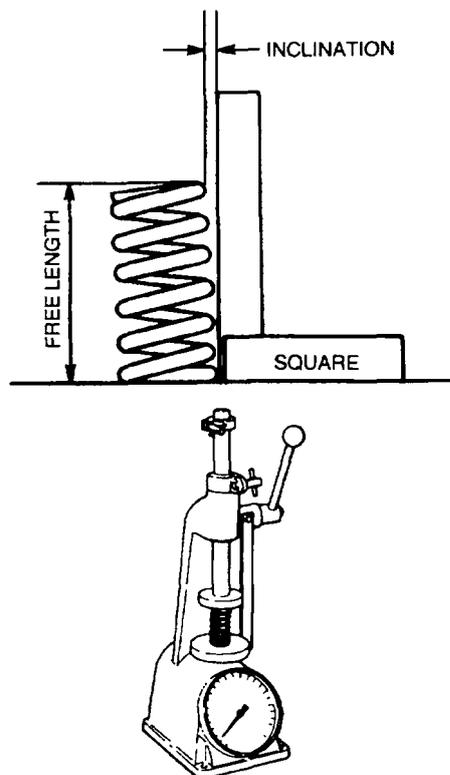

Figure 10 Checking Free Length, Inclination and Compression of the Valve Springs
- aa. Before installing the valve spring, check the condition of each spring. Check for cracks or damage and also check the free length, compression and inclination of the spring (Figure 10).